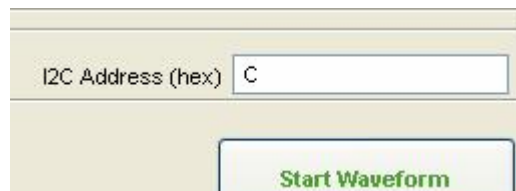

Figure 8: I²C Address
7. Configure the I²C address of the DAC. The DAC121C085 will respond to I²C address 0x0C by default with pins A0 and A1 floating (no jumpers on JP5). Change the I²C slave address of the DAC by adding jumpers to JP5. Refer to Table 1 for a detailed description of the I²C address settings. The address in Figure 8 must match the address configured by A0 and A1.